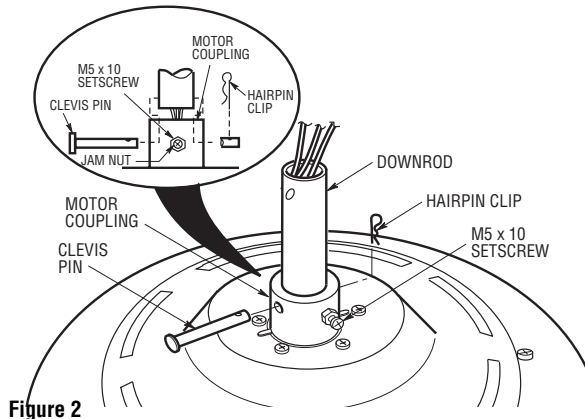

Figure 2
2. Loosen the two setscrews in the motor coupling and separate, untwist and unkink the three 80" motor leads. Route the motor lead wires through the downrod. Align the clevis pin holes in the downrod with the holes in the motor coupling. Install the clevis pin and secure with the hairpin clip (Figure 2). The clevis pin must go through the holes in the motor coupling and the holes in the downrod. Be sure to push the straight leg of the hairpin clip through the hole near the end of the clevis pin until the curved portion of the hairpin clip snaps around the clevis pin. The hairpin clip must be properly installed to prevent the clevis pin from working loose. Pull on the downrod to make sure the clevis pin is properly installed.
It is critical that the clevis pin in the motor coupling is properly installed and the setscrew securely tightened. Failure to verify that the pin and setscrew are properly installed (as shown in Figure 2) could result in the fan falling.